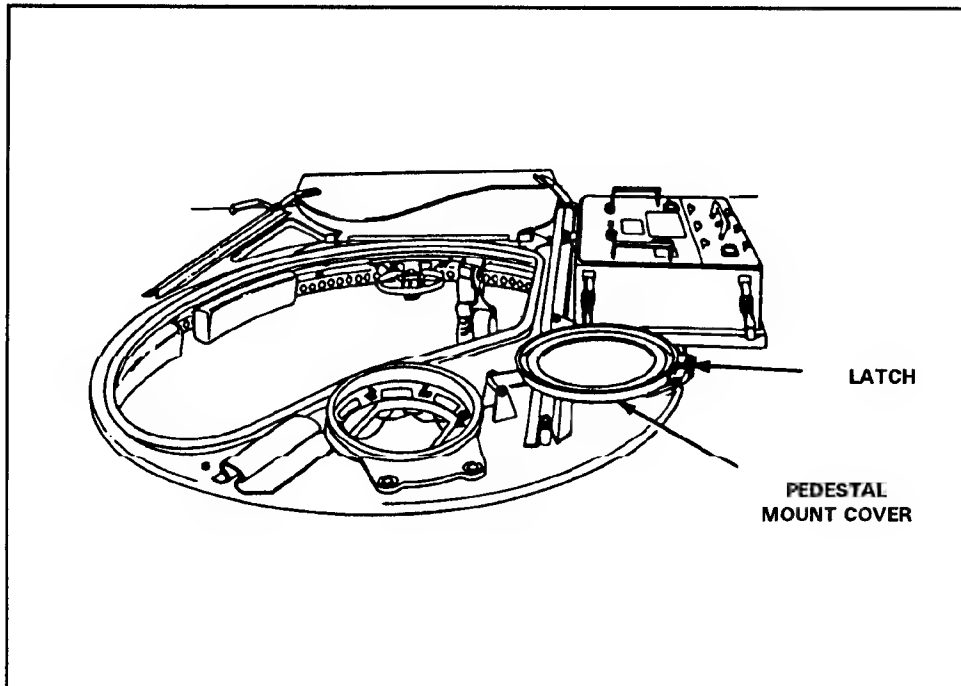
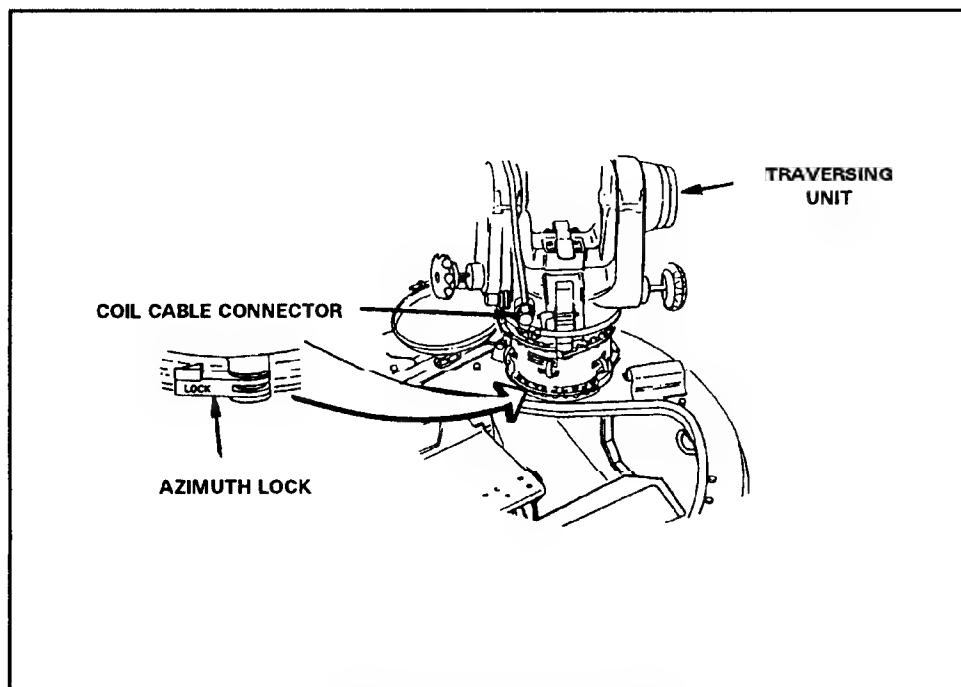

Figure 3-7. Pedestal mount cover and latch.
Figure 3-8. Coil cable connector.
(1) The gunner opens the pedestal mount cover and secures it (Figure 3-7, page 3-9).
(2) The gunner lifts the traversing unit with adapter attached from the stowage base and secures the traversing unit to the pedestal mount with the coupling clamp ensuring that the traversing unit azimuth lock is toward the rear of the vehicle.
(3) The squad leader pulls the coil cable out of its retaining cup and hands it to the gunner (Figure 3-8, page 3-9).